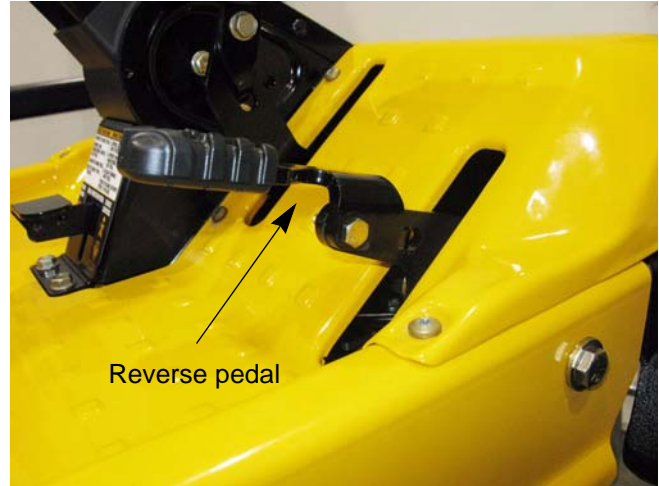

Figure 3.3
3. Remove the reverse pedal using a pair of 7/16" wrenches. See Figure 3.3.